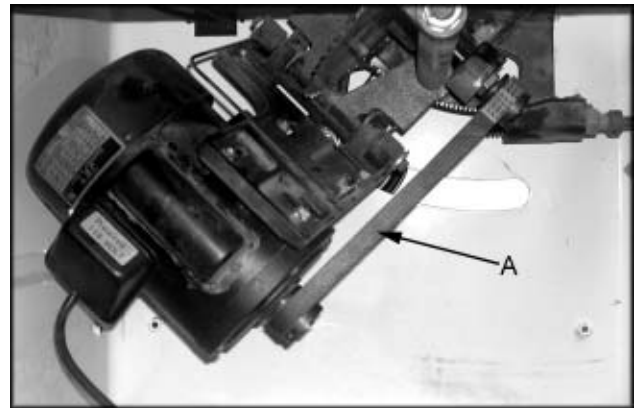

Fig. 37
3. Take the tension off of the belt (A, Fig. 37) by lifting up on the motor.